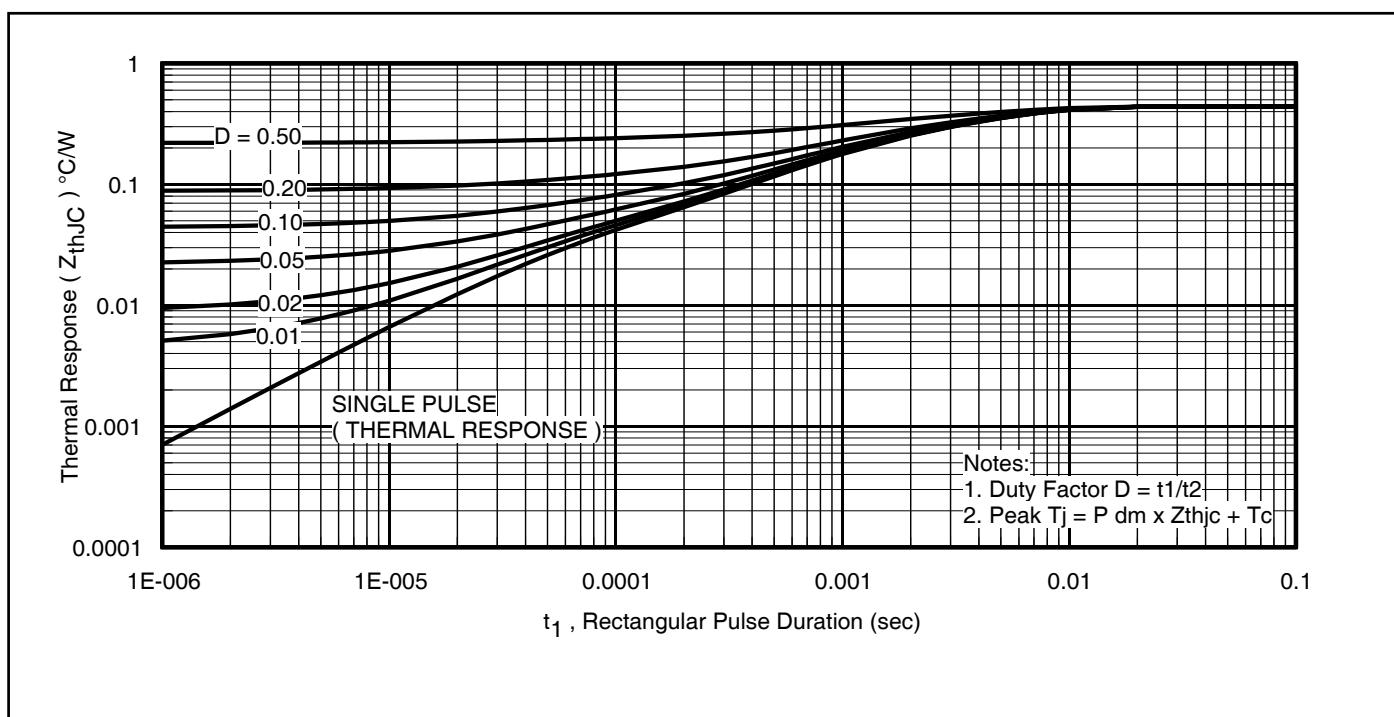

Figure 14 Maximum Effective Transient Thermal Impedance, Junction-to-Case
7.  $DT$  = Allowable rise in junction temperature, not to exceed  $T_{jmax}$  (assumed as 25°C in Figure 14, 15).
$Z_{thJC}(D, t_{av})$  = Transient thermal resistance, see Figures 14)